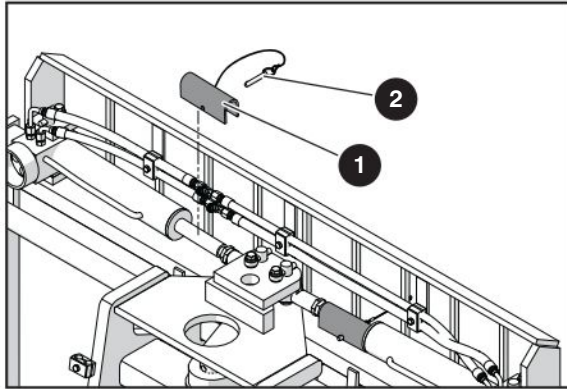

Figure 48 Swing Carriage Locking Device
4. Install the swing carriage locking device on both swing cylinders as shown in figure 48. Secure them with the quick release pins 2.